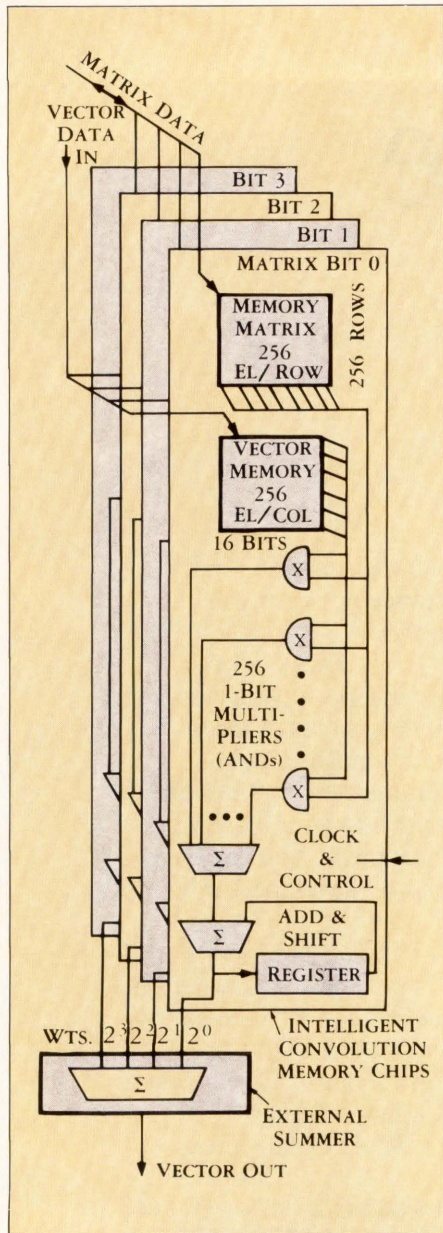
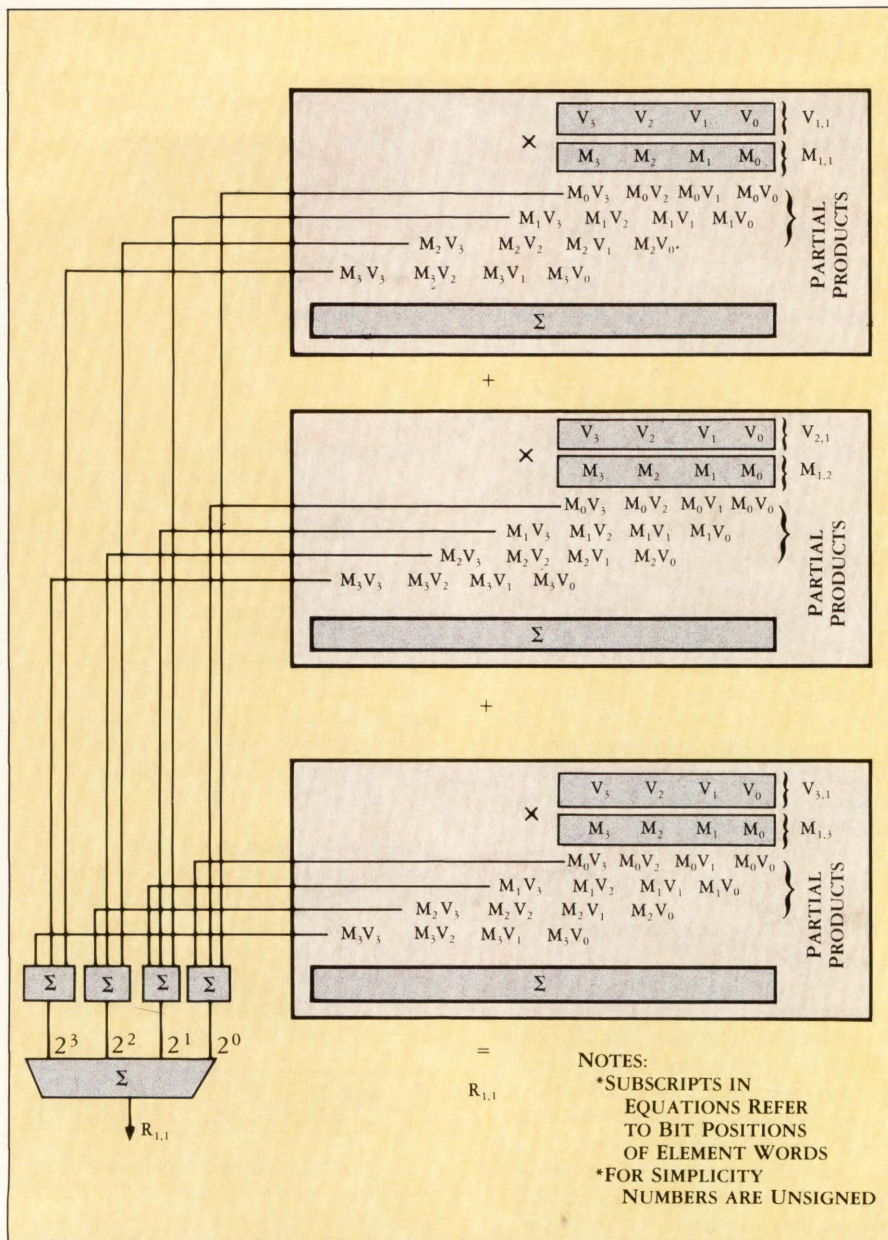

Figure 1. One form of Oxford's 'Intelligent-Memory' chips for massive parallelism in multiplying whole matrices.
Figure 3. How the operations indicated in Figure 2b would be done longhand (bit level). To the left is sketched in how this would be mapped into Morton's chips.
Figure 1 shows a basic version of Morton's proposed architecture. It's a configuration offered for handling large matrices. The architecture uses multiple convolution-type intelligent memory chips plus a few other auxiliary and support chips.
values are repeated redundantly in each chip. What Figure 1 does not show clearly is that the intelligent-memory chips must be clocked through as many cycles as there are bits of V-word precision.
For example, 64-kbit memories, such as those used in the chips in Figure 1, would have 256 × 256-bit structures. These would have a wide 256-bit word coming off internally. Normally, because of I/O-pin limitations, as little as 1 bit of this 256-bit-wide internal word might be used. But because the ALUs are brought onto
Second, like others in massive parallelism, Morton required the simplicity of bit-serial operation. Only with bit-serial operation could the 256 multipliers be crammed into the chips in Figure 1. With bit-serial operation, the multipliers need only be 2-input AND gates (although for pattern matching, Morton also includes EXCLUSIVE-OR gates). When smaller matrices are involved, Morton trades up to more ALU parallelism, as will be seen in Figure 7.
Figure 3 gets down to the bit-level details of the mathematics that must be performed by the chips. It shows how the first result element of Figure 2b would be calculated in longhand with paper and pencil. To the left we start to sketch in the connections between the longhand oper-
Three multiplier ANDs would be provided below on each chip. Three would be needed to match the 3×3 size of the matrix, so that the three multiplications indicated in Figure 3 could be moved along in parallel. The summers and accumulator registers at the bottom of the chips (refer back to Figure 1 for best details) would add up the products from the different longhand computations as the operation progressed. A key premise of Morton's architecture is that it makes no difference how or when the products are summed as long as they all do get summed. Of course it's necessary that there be built-in shifting to take care of bit-position scaling.
Let us summarize how Morton performs the longhand computations of Figure 3 in terms of the Figure 4 diagram.
3. The sums of the like rows are continuously accumulated as they are generated by the adders and registers at the bottom of the three chips (refer back to Figure 1 for details). By the end of the computation, the external summer chip will have accumulated the total sum that will represent an element for the result matrix (vector) R .
This process is quite confusing to follow unless you meticulously and methodically keep track of all the matrix subscripts. At the same time you should be constantly checking that what is going on inside the chips is what *should* be going on as indicated by the Figure 3 mathematics.
What, if any, is the performance gain with this mostly parallel architecture? For our small 3×3 matrix times a 3×1 vector with just 4-bit precision, there is not much advantage. If the precision were raised to 16 or 32 bits there would be even less advantage. Some of the modern DSP microprocessors that can handle 16- or 32-bit multiply-accumulates in one cycle would outperform the Morton architecture. But there are two aspects of real-world matrix operations that favor massively parallel architectures such as Morton's. First of all, as implied by the values in Figure 1, many matrix applica-